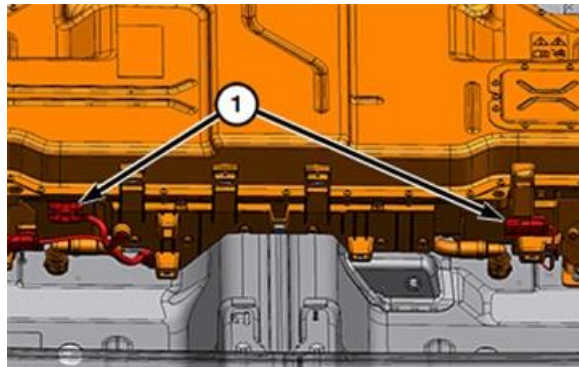

Figure 35 – HV Wire Harness Connectors
38. Disconnect the HV wire harness connectors (1) (Figure 35).
31. Connect the HV battery coolant line connectors (1) (Figure 35).